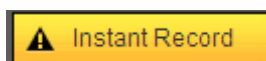

Figure 5-12
- Section 4: Instant record button. Click it, the button becomes yellow and system begins manual record. See Figure 5-12. Click it again, system restores previous record mode..